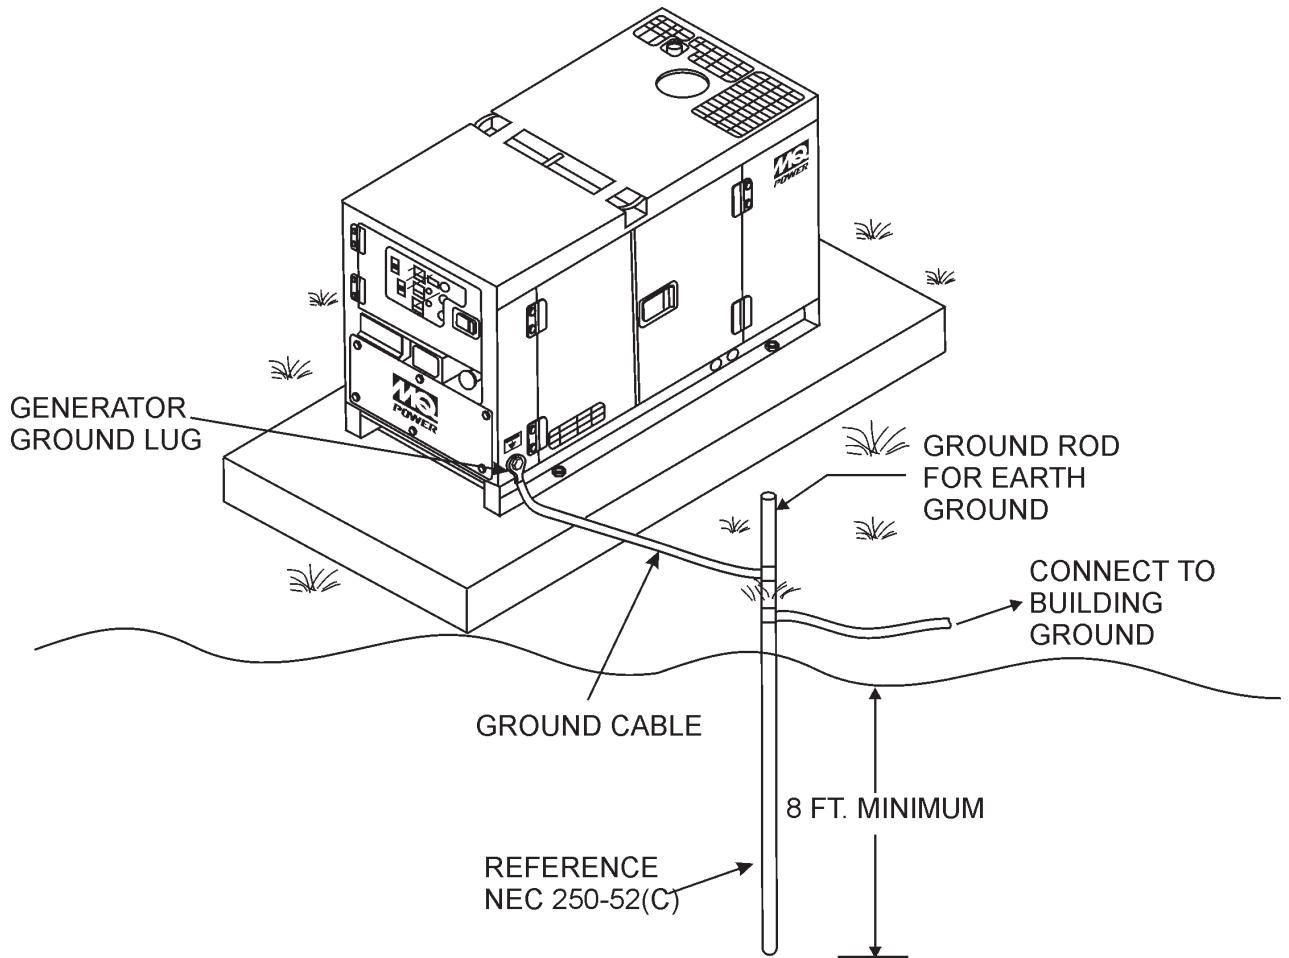

Figure 13. Typical Generator Grounding Application
2. When grounding the generator (Figure 13) connect the ground cable between the lock washer and the nut on the generator and tighten the nut fully. Connect the other end of the ground cable to earth ground.